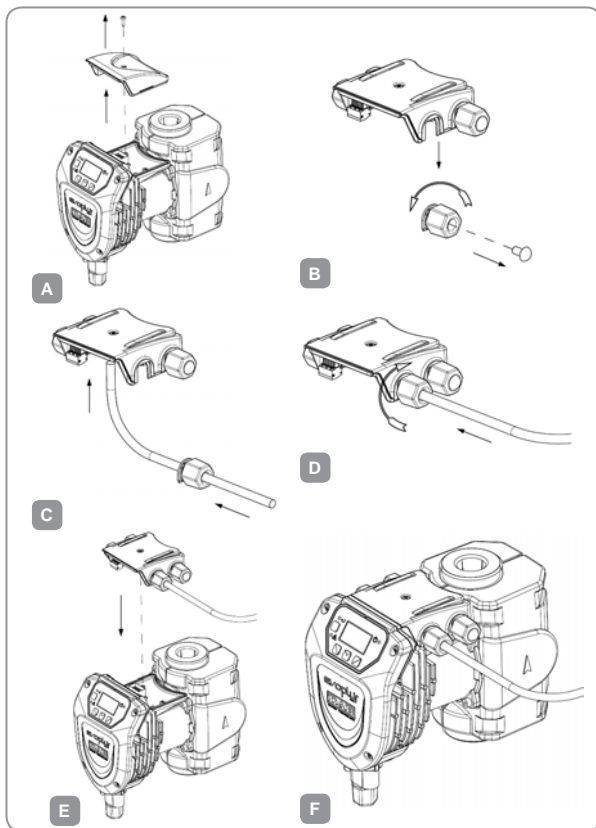

Figure 1: Procedure for installing expansion modules
To install the expansion module, follow the instructions given in Figure 1:
- Remove the standard cover fitted on the **EVOPLUS SMALL**. Figure 1: (A).
- Use one or more cable clamps to make the electrical connections to the expansion module. Figure 1: (B) – (C) – (D).
- Position the expansion module in the place of the standard cover and close again. Figure 1: (E) – (F).